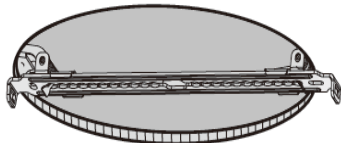

Fig.3
- Lift both springs and fit into the ceiling (see Fig. 3)